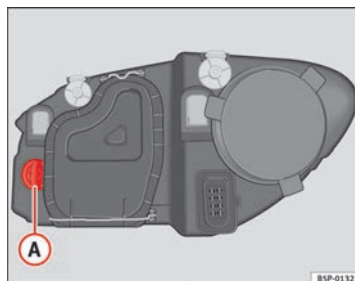

Fig. 163 Turn signal
- Rotate the bulb holder ⇒ fig. 163 A to the left and pull.